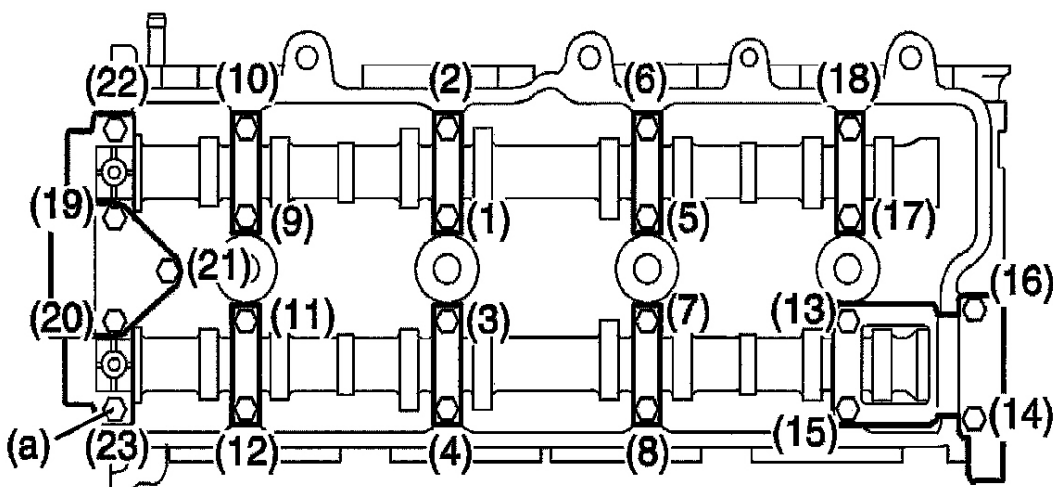

Fig. 107: Tightening Camshaft Housing Bolts In Sequence
5. Tighten camshaft housing bolts in such order as indicated in figure a little at a time till they are tightened to specified torque. See **Fig. 107**.